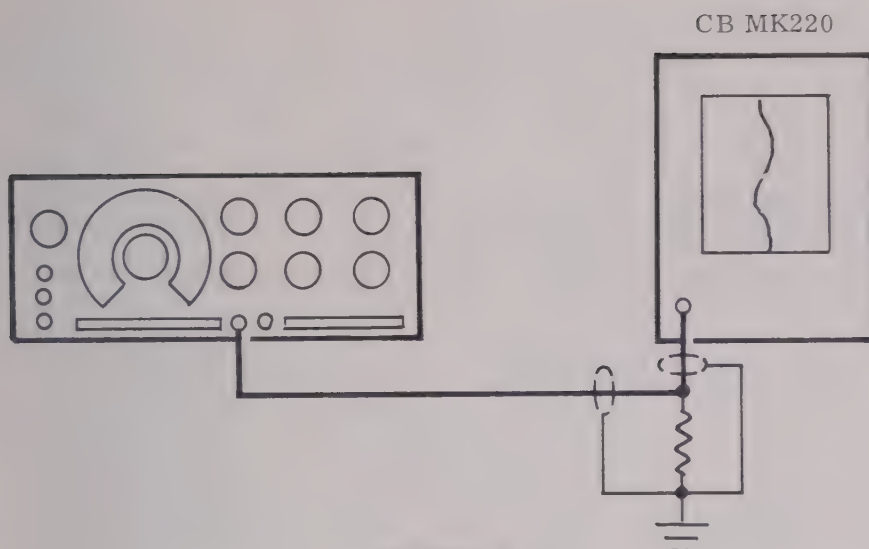

FIGURE 3-7
- 19. Interconnect the equipment as shown in Figure 3-7, observing signal and ground connections carefully.